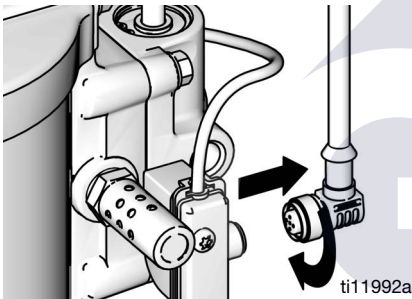

FIG. 9. Disconnect DataTrak
- Unscrew cable from the back of the reed switch assembly. See FIG. 9.